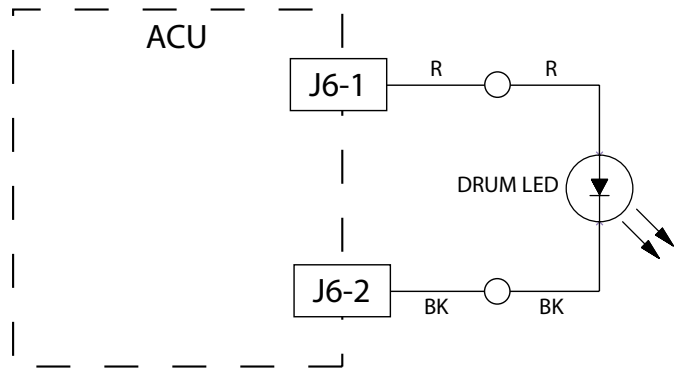

Figure 2 - Drum LED Strip Circuit
**NOTE:** Refer to the strip circuit at right (Figure 2) to diagnose the drum LED.